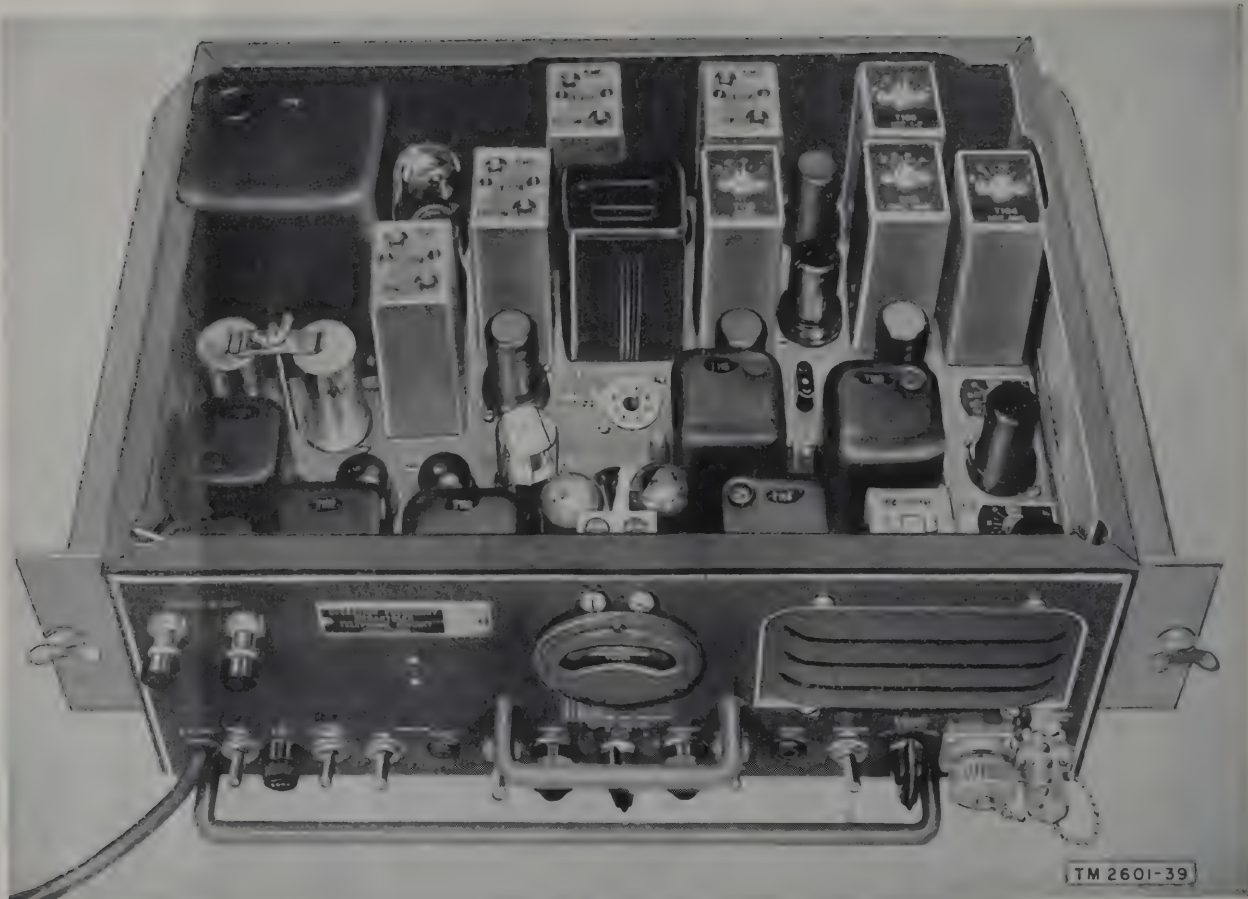

Figure 36. Radio Receiver R-19H/TRC-1, top view of chassis.
g. Radio Receiver R-19H/TRC-1 (fig. 36) incorporates JAN type components and has circuits for improving the a-f response. An end-thrust type bearing in the blower motor provides longer motor life and more satisfactory operation in its vertical position.